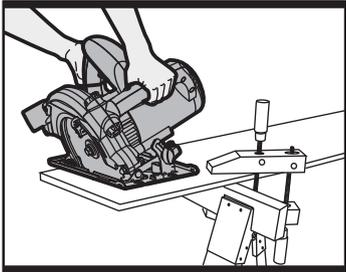

Fig 6
There is a cutting guide notch (18) on the front of the base plate (3) for use with a parallel guide (20). For straight cuts, use the 0° guide mark to align with your parallel guide scale. For a 45° bevel cut, use the 45° guide mark to align with your parallel guide scale (See Fig 6 and 7). Securely clamp the parallel guide (20). Always make a trial cut to check the setting.